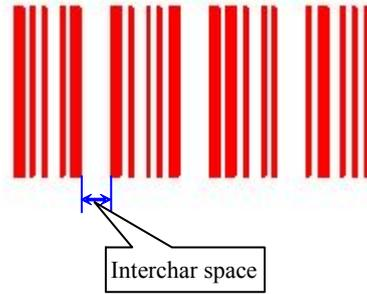

Figure 4-17 Characters' Distance
**Interchar space:** It is prescribed that some barcodes have distance between characters. (e.g. Code 39) This parameter is used to set this like Figure 4-17 shows.